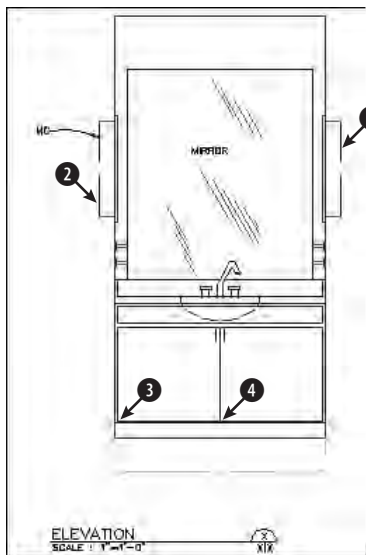

Figure 11-24: A lavatory cabinet
2. Save the file as `ab11-04.dwg` in your AutoCAD Bible folder. This is an elevation view of a lavatory cabinet, shown in Figure 11-24.
5. Pick the lines at ① and ② in Figure 11-24. Click the Linetype Control drop-down list and choose the Hidden linetype. Press Esc so that the hidden lines are no longer selected.